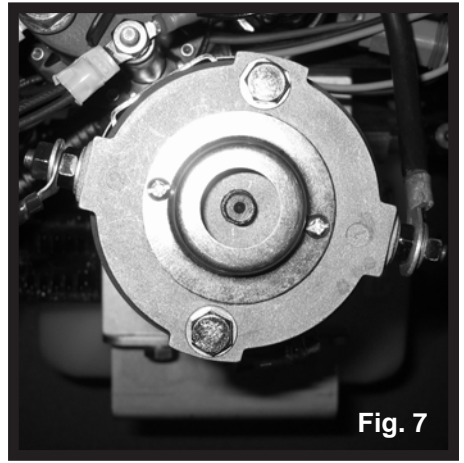

Fig. 7
4. Insert 1/2" socket onto coupler found under plastic capl, Fig. 7.